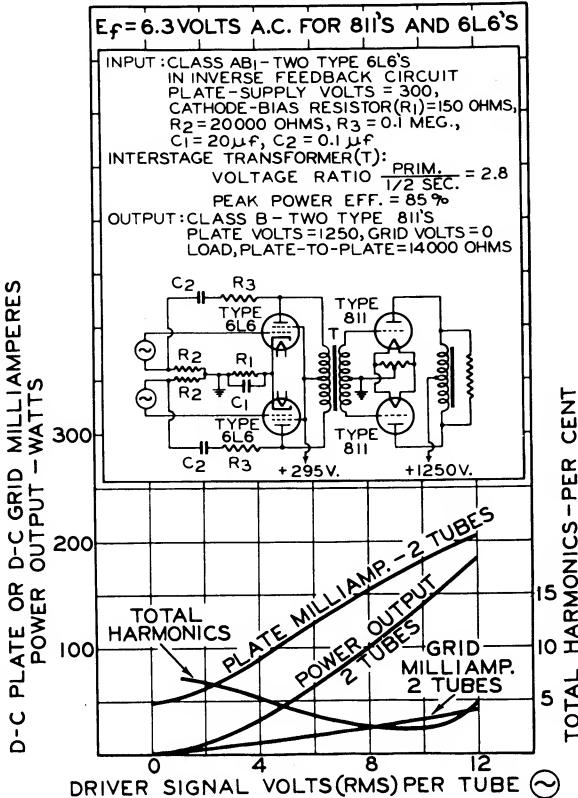

Figure 1
class B at a plate voltage of 1250 volts (zero bias) will deliver 175 watts, and are, therefore, well suited for the modulator stage. A pair of 6L6's in class AB₁ are recommended for the audio driver stage in an inverse feedback circuit (see the circuit and curves of Fig. 1). An a-f driving voltage of only 12 volts RMS per grid will drive the 6L6's to the point required for full output from the class B 811's. A pair of 809's in class B, with their new ICAS ratings, will deliver 145 watts of a-f power. They will, therefore, also do a very good job of modulating two 812's.
The 811 is a zero-bias, high-mu class B modulator, as well as an excellent r-f tube. Two 811's in class B provide 225 watts of a-f power, which will do a good job of modulating a $\frac{1}{2}$ kw. phone transmitter. A typical class B modulator stage using two 811's driven by two 6L6's, with inverse feedback, is shown in Fig. 1. Operating characteristics are shown in the curves of Figs. 1 and 2. Because of its high permeance and high mu (160), the 811 makes an efficient plate-circuit frequency doubler.